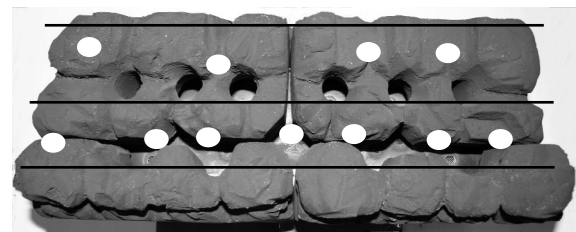

Fig. 10b
4) Next, take 6x coals and place along the front row of the base matrices, 3x to the left of the centre coal and 3x to the right of the centre coal. Observe the cutout positions within the matrices as shown in Fig. 10b & 10c.
5) Take the remaining 4x coals and place along the upper edge to the base matrices. Again, place the coals into the areas shown in Fig 10b. The coal set layout is now complete and should look like Fig 10d & 10e.